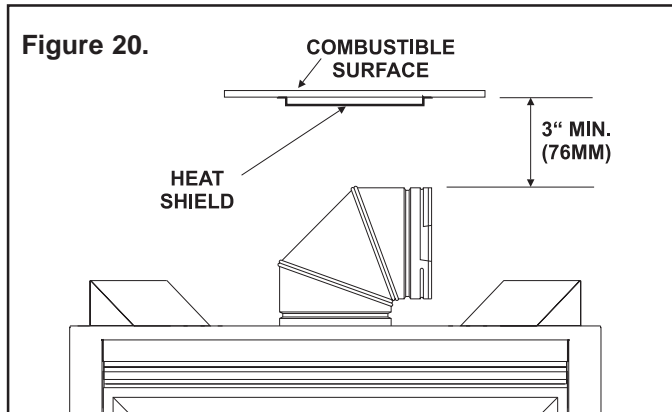

Figure 20.
1. Determine if the heat shield is required. Do so by measuring the vertical distance between the top horizontal surface of the elbow to any combustible surface above. If the distance is more than 4 inches, the heat shield is **NOT** required. If it is 4 inches or less, the heat shield is **REQUIRED**. Install per the following steps. See Figure 20.